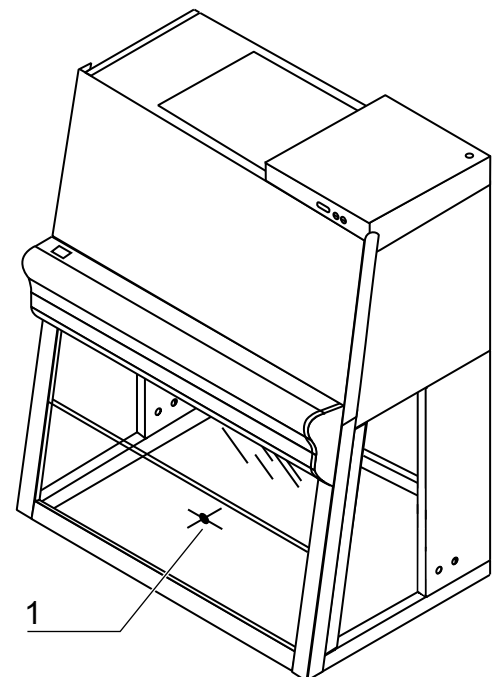

Fig. A13,
1. **Fig. A13:** Secure the sensor of the vibration analyzer firmly to the center [1] of the workplate using double-faced adhesive tape.